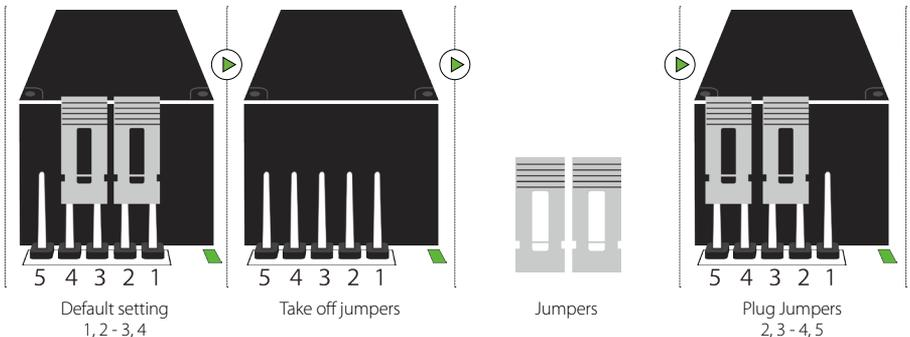

Figure 21
1. Take apart the cover of InBio460Pro. Push the tab inward (see figure 21).